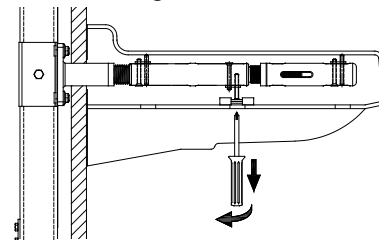

Fig. 12
12. Once the lavatory is set to the proper height and leveled, gradually reverse the lock-down bar screw from the arm until the rubber pads of the lock-down make contact with the fixture, securely locking it into place. See Fig. 12